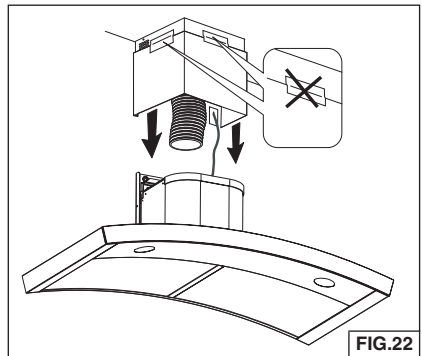

FIG.22
10. Remove tape from flues and lower into position on the hood. Fig. 22.